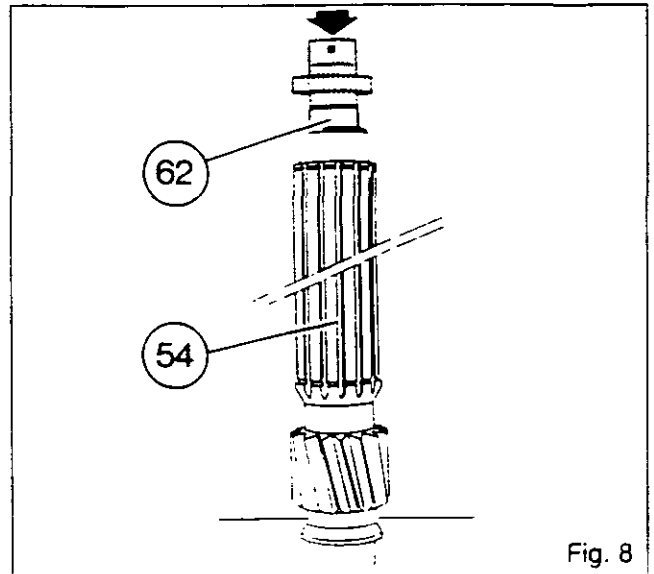

Fig. 8
21. In a press, press needle-roller bearing (62) in until it is bearing against the shoulder in shaft (54) (Fig.8).